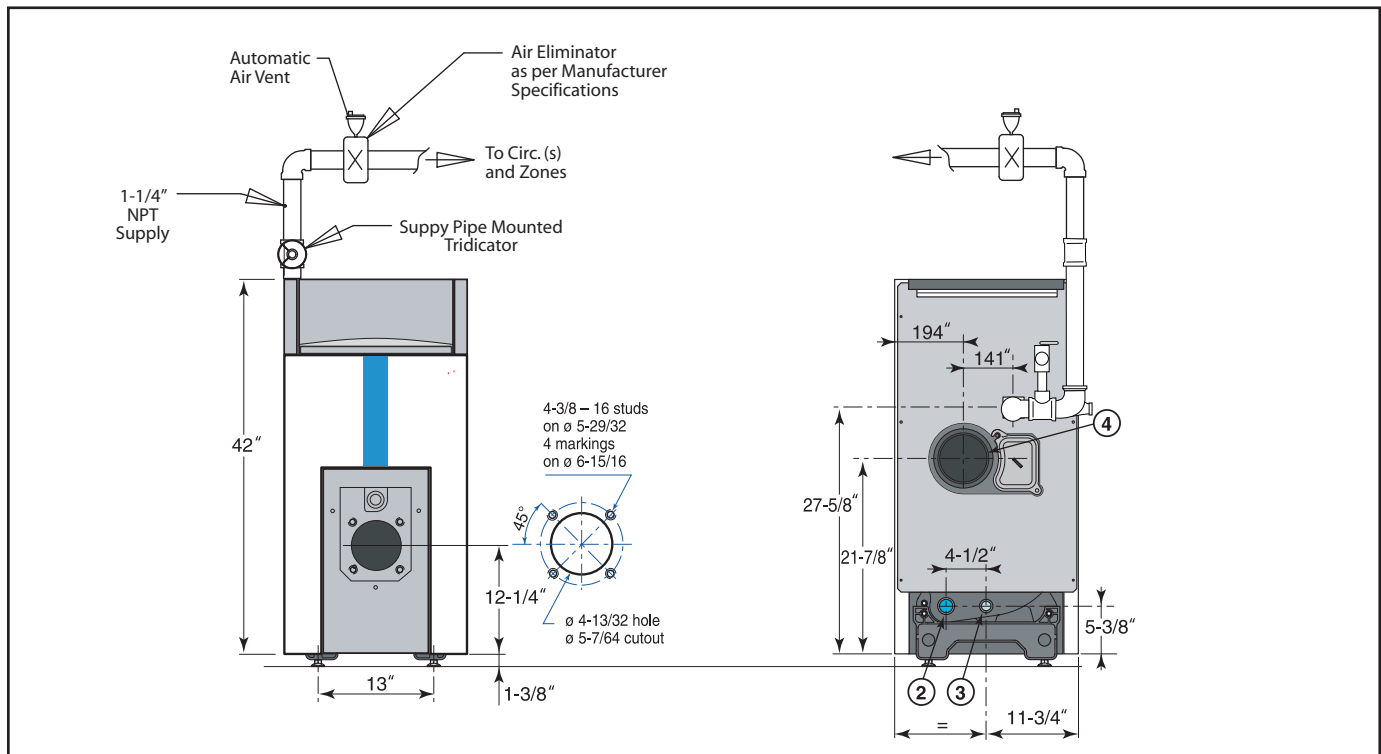

Figure 4. Air Eliminating System or Alternating Collecting System
- A. **DIAPHRAGM-TYPE COMPRESSION TANKS** are used to control system pressure in an **AIR ELIMINATING SYSTEM**: an automatic air vent is used to REMOVE air from the system water. (See figure 4)
the boiler, as in figure 4 and at radiation high points.
- D. **PUMP LOCATION** - Locating low-head pump(s) on return to boiler is only acceptable in residences of one or two stories. The pump location shown in figure 4 is required in large, multi-story building installations, especially when high-head pumps are used and is also recommended for all applications.